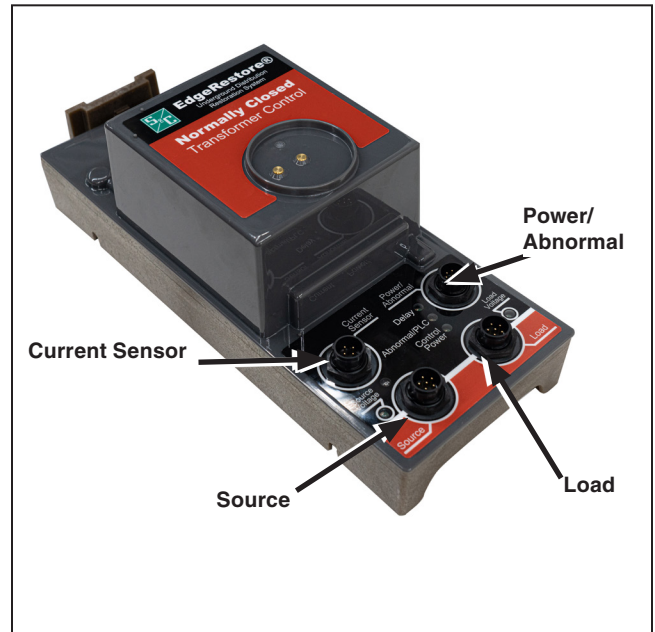
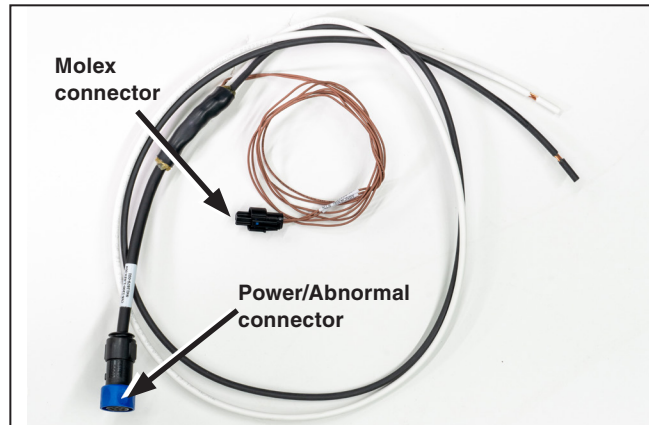

Figure 39. Control connections. Normally closed control shown.
Figure 41. Power connector and Molex connector.
- STEP 4.** Connect the current sensor connector to the control's four-pin connector labeled "Current Sensor." See Figures 39 and 40 on page 25.
STEP 1. Connect the control cable on the bushing well interrupter connected to the source (utility) side to the six-pin connector labeled “Source.” See Figure 39.
STEP 2. Connect the control cable on the bushing well interrupter connected to the load (toward the normally open transformer) to the six-pin connector labeled “Load.” See Figure 39.
A complete installation is shown in Figure 41 on page 26.
A control power connector is included in the installation kit. Connect the black 10-gauge wire to X1 or X3 on the secondary transformer and the white 10-gauge wire to X2. Typically there is a lighting connection on the transformer secondary connections that can be used for this purpose. Then, plug the six-pin connector into the Power/Abnormal connector on the control. See Figures 39 and 40 on page 25, and Figures 41 and 42.
A Molex 2042200002 connector is available to connect the control to monitoring systems that can detect a dry contact that indicates whether the control is in an **Abnormal** state. If the control won't be connected to remote monitoring, leave the connector and wire coiled, as shown in Figure 41. For more information, contact the local S&C Sales Office.
- ❑ Make sure the control cables from the H1A and H1B bushing well interrupters are connected to the control based on the direction of current flow (load or source for normally closed controls, normally open or normally closed for normally open controls) through the transformer. There is a red band on the H1B control cable to help differentiate the cables when making connections to the control. See Figures 39 and 40 on page 25.